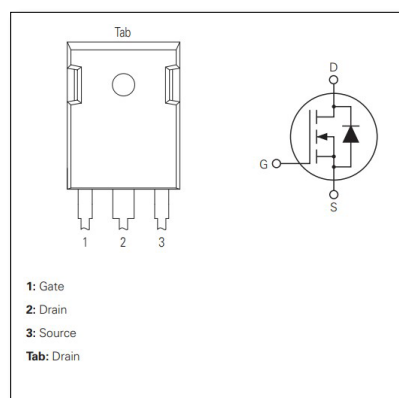

Figure 2. Pinout Diagram of TO-247 and Circuit Symbol of an N-channel Enhancement Mode MOSFET
- **Pinout Diagram** provides a visual representation of the device's physical layout including circuit symbol as highlighted in **Figure 2**.